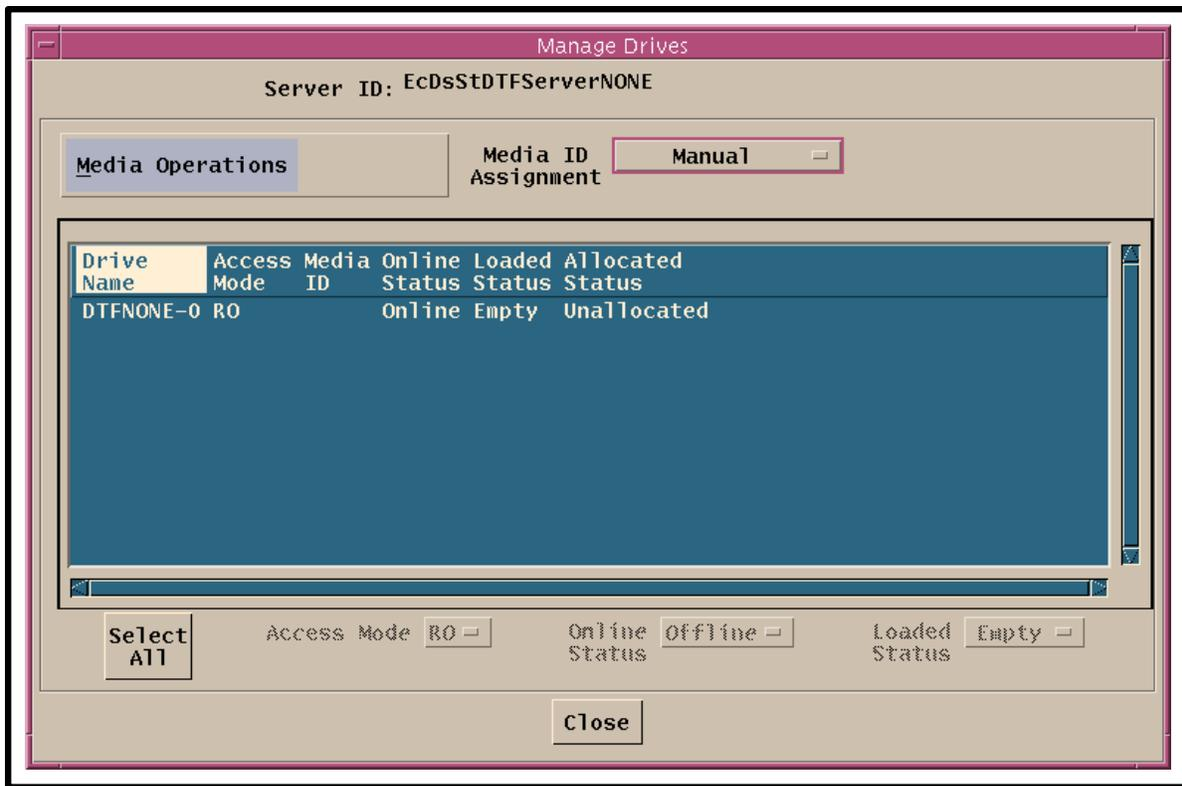

Figure 27. Manage Drives Window
- The **Manage Drives** window (Figure 27) is displayed.
- 11** Verify that the **Media ID Assignment** button on the **Manage Drives** window (Figure 27) is set at the **Manual** option.
- If necessary, click and hold the **Media ID Assignment** button on the **Manage Drives** window (Figure 27) to display a menu of media assignment options, move the mouse cursor to the **Manual** option (highlighting it), then release the mouse button.
- The **Manage Drives** window (Figure 27) is dismissed.